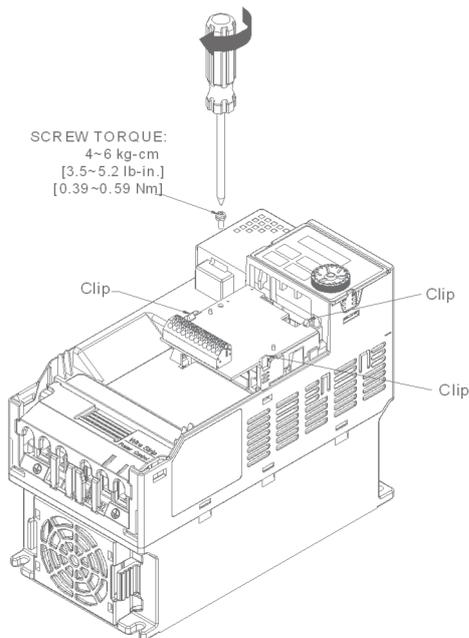

Figure 8-5
5. As shown in the Figure 8-5, make sure that three clips are properly engage the adapter / option card and then fasten the screw. (Suggested torque value: 4–6 kg-cm / [3.5–5.2 lb-in.] / [0.39–0.59 Nm])